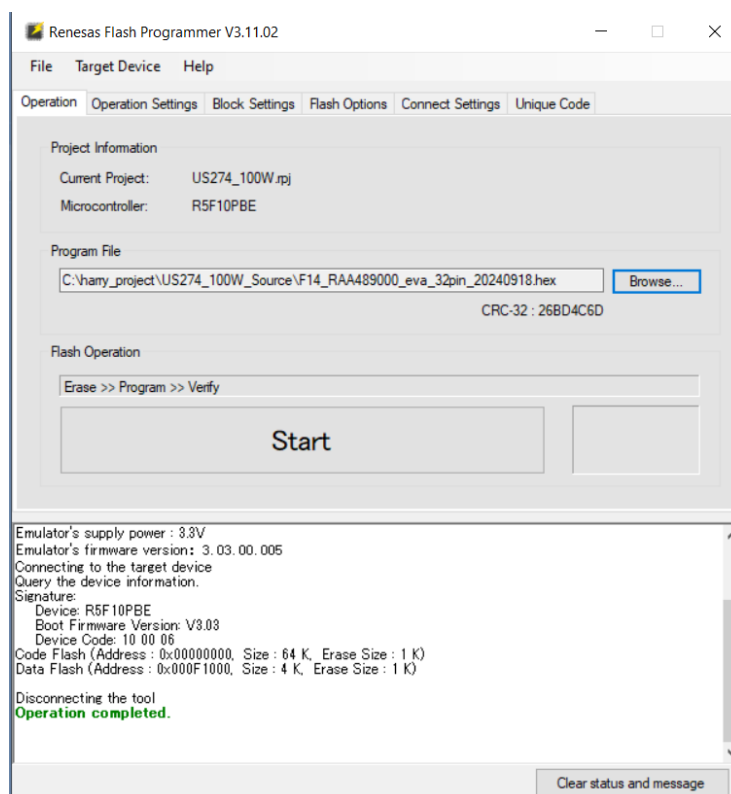

Figure 9. Select HEX File
11. Select the “Operation” tab and click on *Browse* to select the HEX file (see Figure 9). Click the *Start* button to start programming the flash memory data.